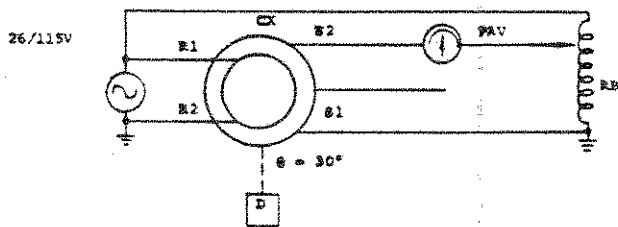

Figure 7-3. Transformation Ratio Test (CX)
- b. With the CX still mounted in a dividing head, set up equipment as shown in figure 7-3.